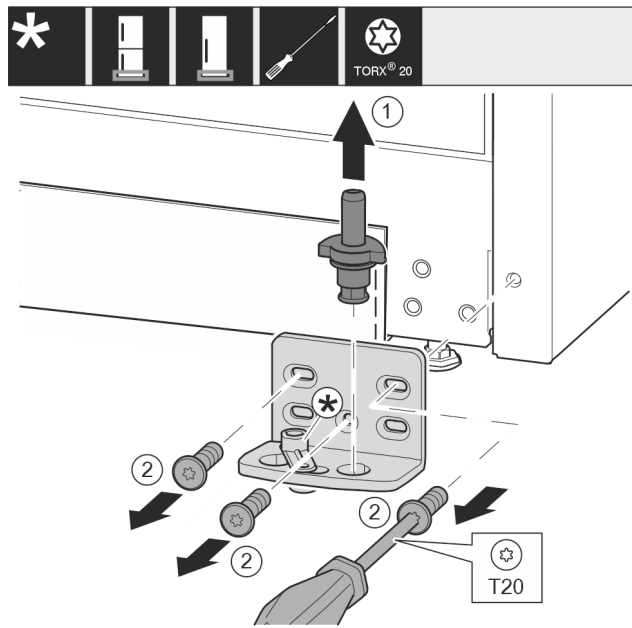

Fig. 18
- ▶ Pull the bearing bolt Fig. 18 (1) out upwards completely.
- ▶ Use screwdriver to unscrew the screws Fig. 18 (2) and remove the swap bearing block.